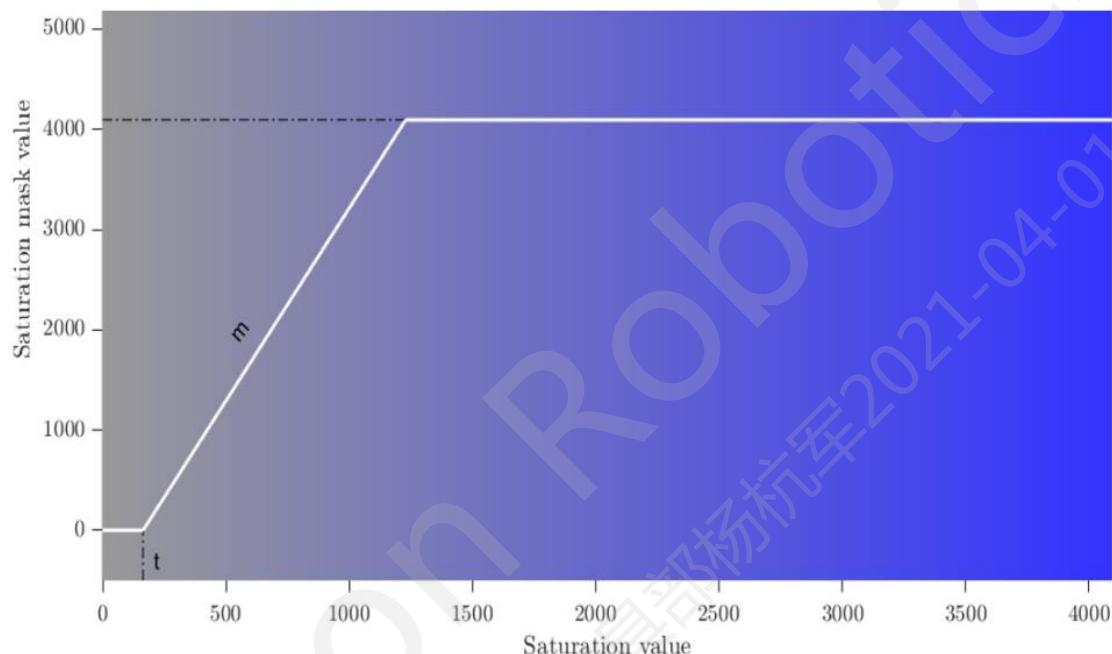
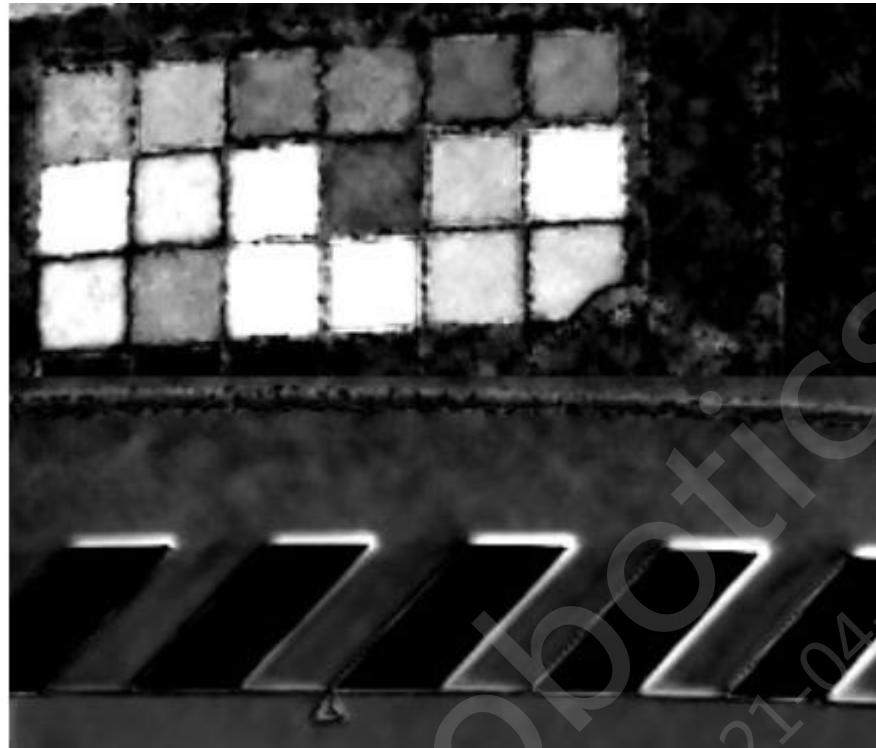

Figure 3.16-4 Saturation parameters and curve
Figure 3.16-5 Tuned saturation mask
These registers define the linear threshold function, which is visualized in Figure 3.16-4. With this function shape, the mask will isolate pixels of medium to high saturation.
- Referring to Figure 3.16-4, adjust the shape of the filter using Sat_low_thresh and Sat_low_slope until all fringing regions are included in the mask, with other regions minimized. The initial "Sat_high" values will have no effect, but can be adjusted to reject high saturation pixels if desired. Figure 3.16-5 shows a tuned saturation mask.